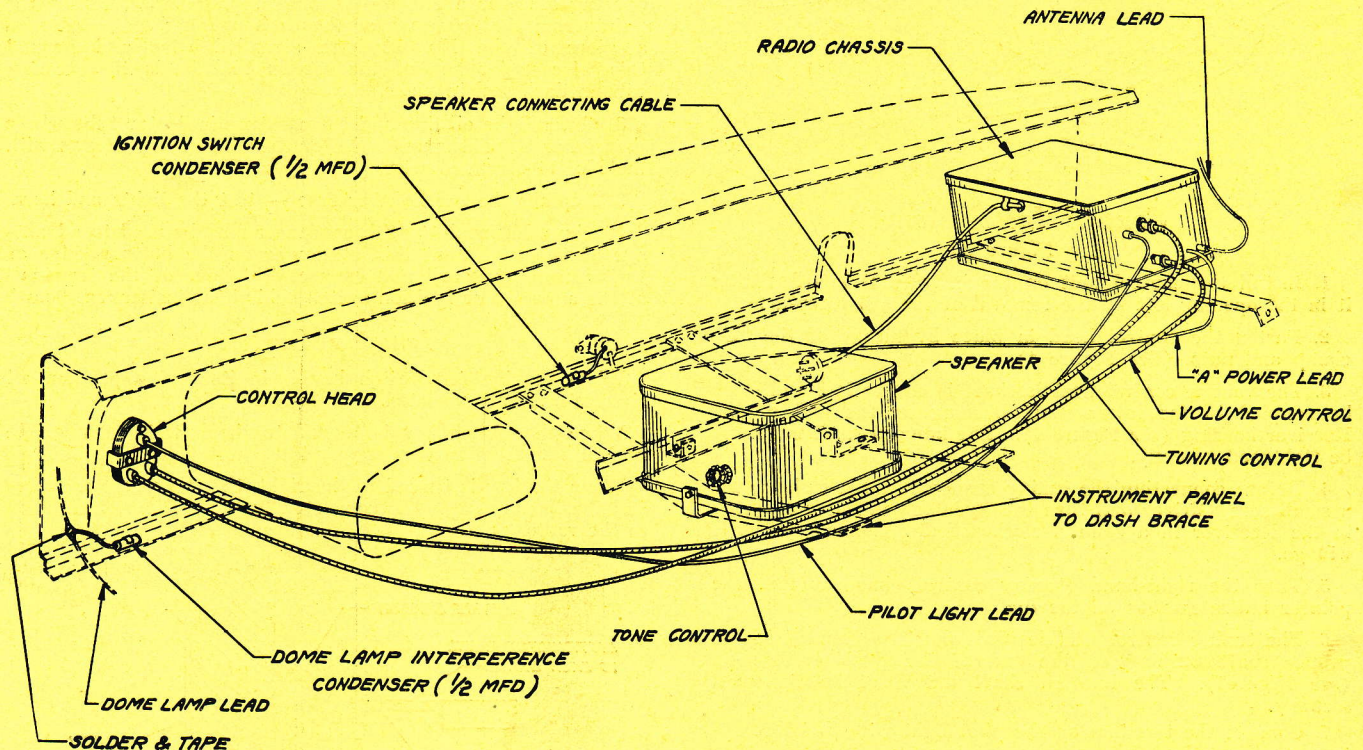

FIGURE 1
(See Figure 1)
(See Figures 1, 2 and 3)
3. The volume control flexible shaft is on the left and must be coupled in the lower shaft bushing on the end of the Receiver housing (see Figure 1). The knurled shaft nut must be tightened securely.
6. The tuning control flexible shaft must be coupled in the proper shaft bushing on the end of the Receiver housing (see Figure 1). The knurled shaft nut must be tightened securely.
7. Connect the terminal on the pilot light wire to its receptacle on the end of the Receiver housing (see Figure 1).
8. Connect the antenna lead to its receptacle on the end of the Receiver housing (see Figure 1).
The tone control knob is on the right hand side of the speaker housing (see Figure 1). It should be adjusted to the tone most pleasing. There are four (4) positions: brilliant, bright, mellow, and deep. Speech is clearest when in bright or brilliant, while usually orchestras will sound best on bright or mellow.